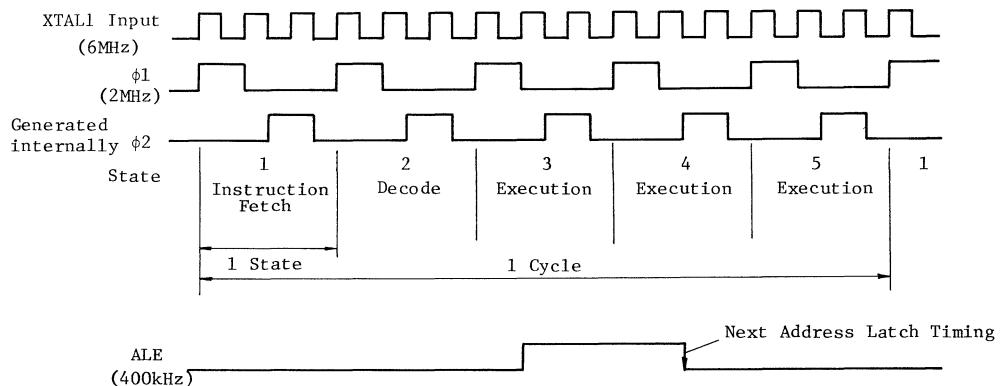

Fig.4 Instruction Cycle Timing
(1) Instruction Cycle
- Fig.4 illustrates its relationship with the clock input to CPU.
- $\#2$ clock shown in Fig.4 is derived to outside by ENTO CLK instruction.
(2) External Memory Access Timing